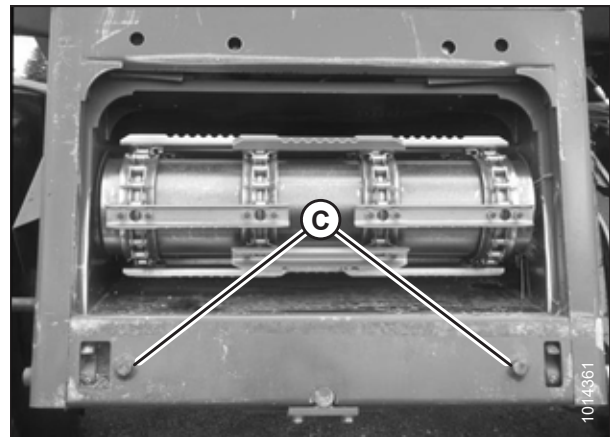

Figure 4.3: AGCO Group Alignment Pins
3. Start the engine and slowly approach the header until the feeder house is directly under float module top cross member (A) and alignment pins (C) (refer to Figure 4.3, page 72) on the feeder house are aligned with holes (B) in the float module frame.